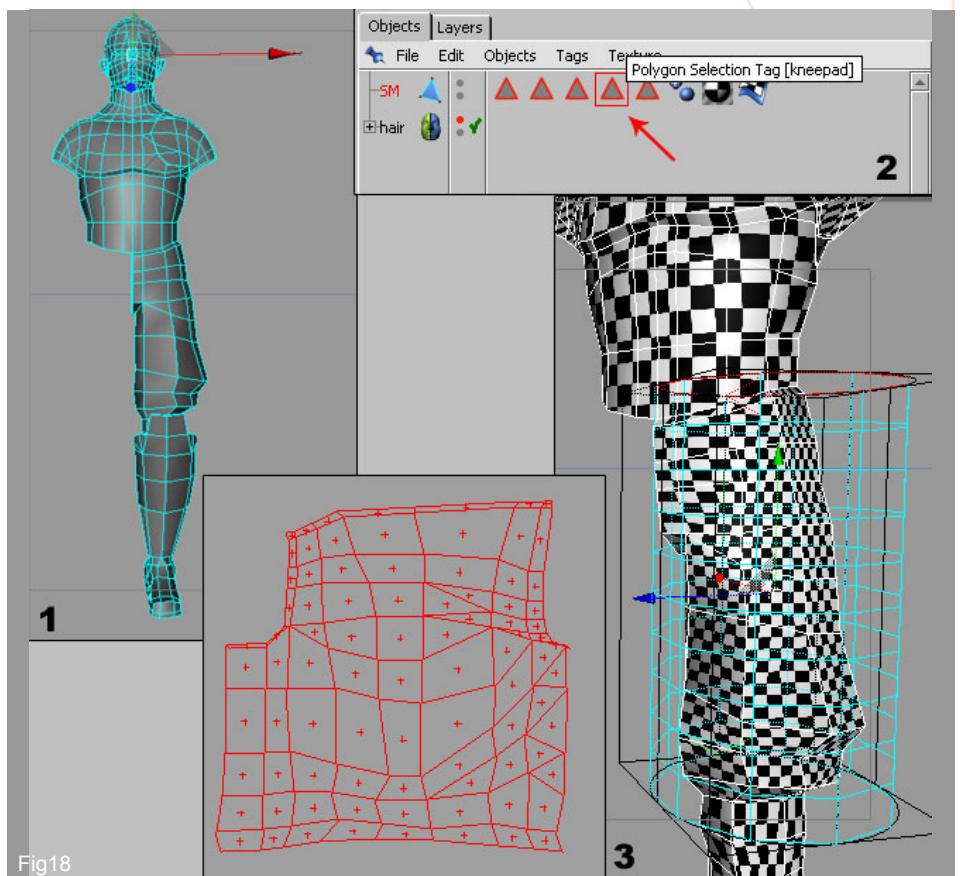

Fig18
18. Now it is time to deal with the limbs. Before starting the procedure of Interactive Mapping we can delete one leg from the waist down (stage 1- Fig18). Any mapped geometry that is duplicated retains its mapping co-ordinates and so to save time we will map just one leg and then we will duplicate it. Hide the kneepad object by double click on Polygon Selection Tag. (Stage 2). Select the all the poly's that make up the trousers and apply a Cylindrical map by using the Interactive Mapping command. (Stage 3). How you can see from figure the mesh has some overlaps that will need to be fixed by moving manually the verts.